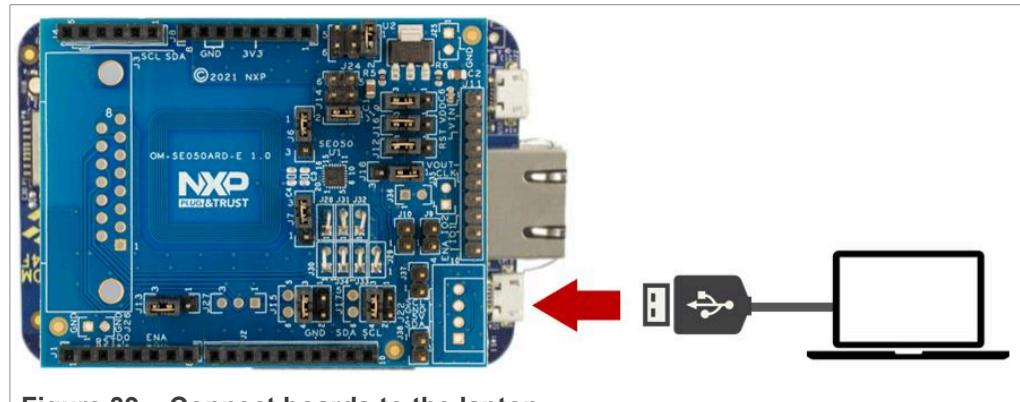

Figure 39. Connect boards to the laptop
1. Attach a USB cable from the computer to the K64F OpenSDA debug USB connector as shown in Figure 39.